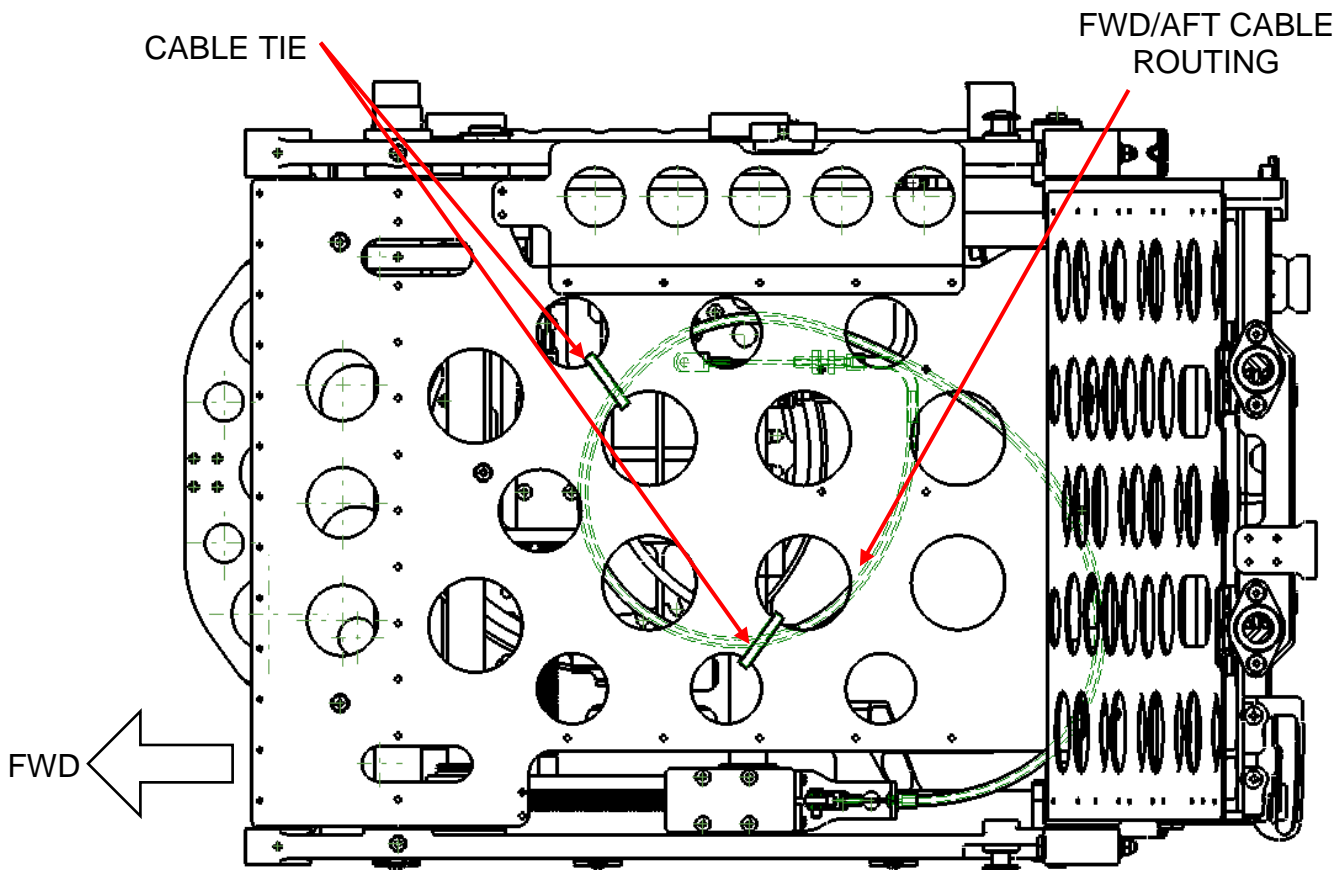

FIGURE 8
12. Attach two cable ties (12) to the pan structure assembly (4-25, 4-30) to secure the fwd/aft cable routing in positions as shown in figure 8.